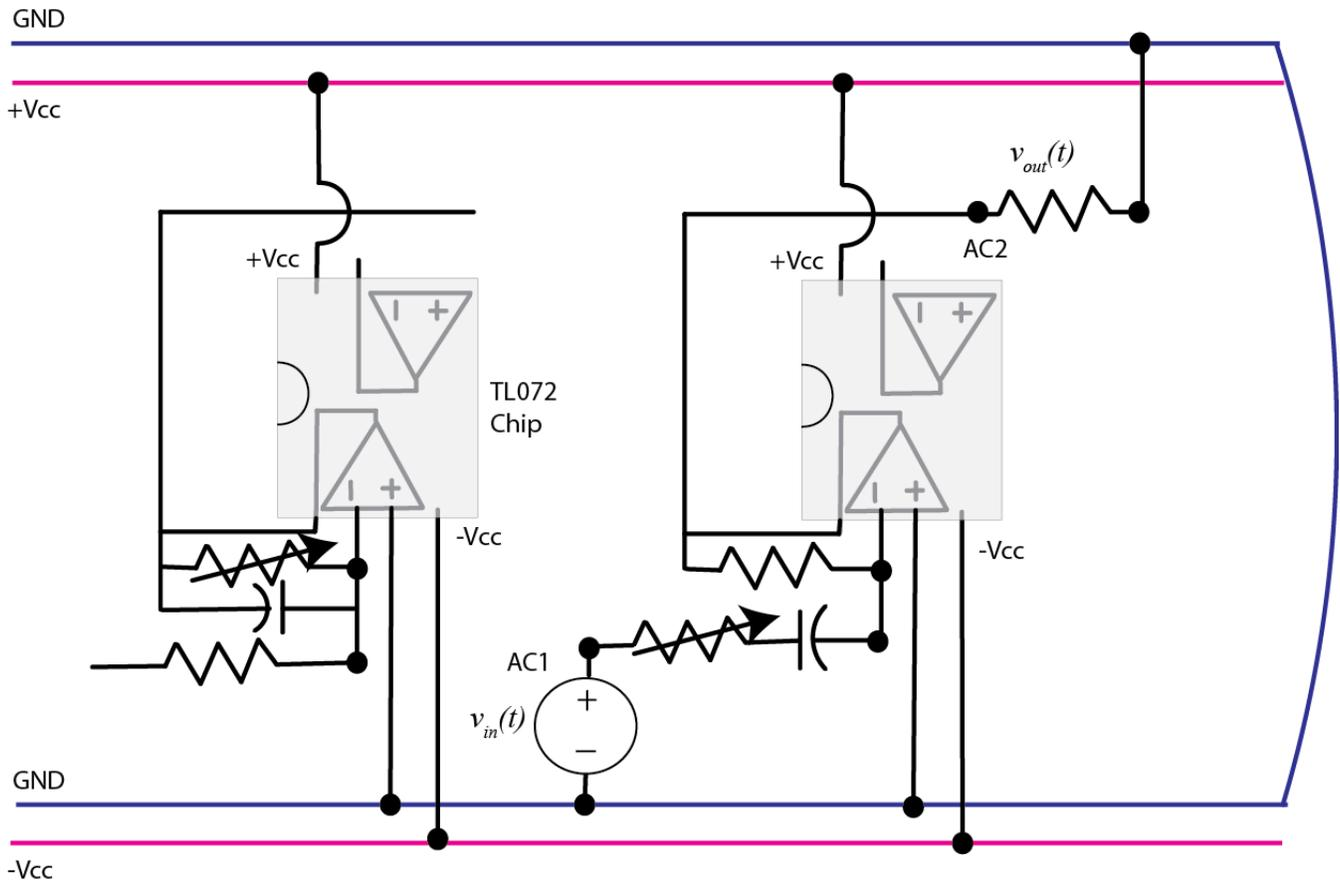

Figure 4. Highpass filter.
3) Now build the highpass filter as shown in Figure 4. We have again included a load resistor to measure the output voltage. Do not connect the two subsystems yet. Adjust the variable resistor so for an input signal (sine wave) at 1000 Hz with an amplitude of 1.0 volts (2.0 volts peak to peak) the output signal has the same amplitude as the input signal.